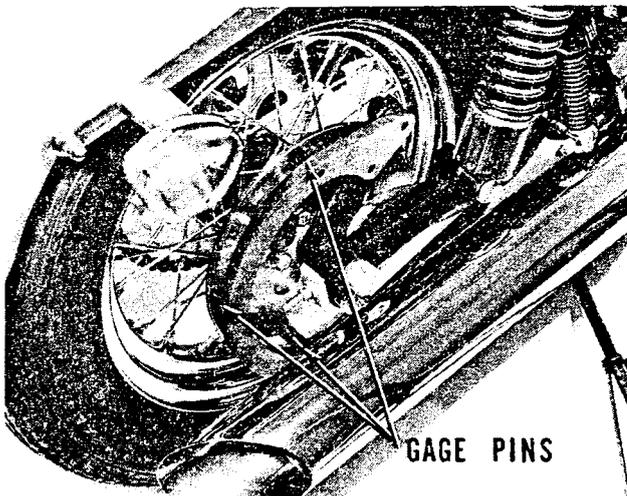
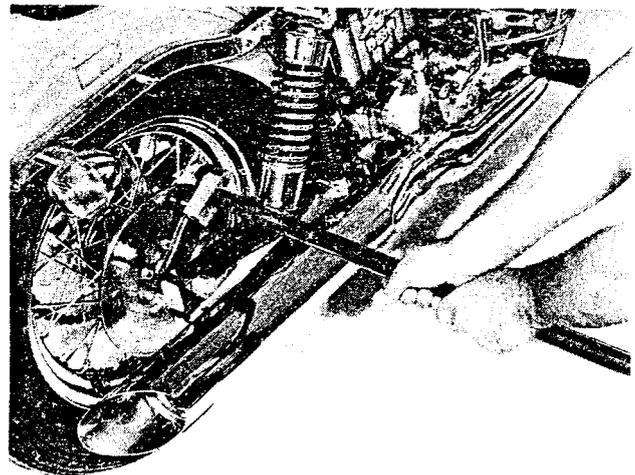

Figure 2. Gage Tool
Figure 3. Bending Tool
12. Remove brake mounting bracket (22) as follows: Free lower end of bracket from torque arm (23) by removing cotter pin, nut, washer and bolt (items (24) from torque arm (23). Support rear wheel and tap axle out through hub until bracket (22) can be pulled completely free.
13. Press out Teflon bushings (17 and 18) with piston pin driver or other 11/16" dia. rod and press in new set of stainless steel bushings, part No.'s 45821-75 and 45822-75. For easy insertion, a slight chamfer can be ground on edge of each new bushing. Also, take care not to bend or distort bracket (22) while pressing bushings.
14. Reinstall brake caliper mounting bracket (22).
15. Align rear wheel and adjust rear chain if necessary. When all adjustments have been completed, tighten axle nut to 50 ft.-lbs. torque and anchor arm nut (24) to 10 ft.-lbs. torque. Secure nut (24) with cotter pin.
16. The rear brake caliper pads (7) must be in parallel alignment with brake disc (20). This is insured by having brake mounting bracket (22) correctly aligned. Check alignment and correct as follows:
Insert alignment gage, part No. 97168-77, into caliper mounting bushings as shown in figure 2. Check to see that all three pins of gage contact surface of brake disc (20). If one or more pins do not contact surface, note which ones and remove gage. Insert bending tool, part No. 97169-77, into bracket holes. Then, using bending tool with a 3/4" I.D. pipe extension as shown in Figure 3, bend bracket (22) until all three pins of gage do contact surface of brake disc (20) when gage is again inserted into bushings.